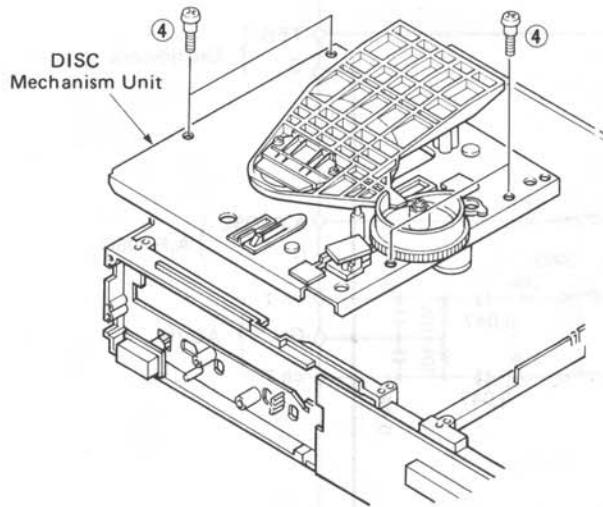

Fig. 4
Remove 4 screws (④) in fig. 4.